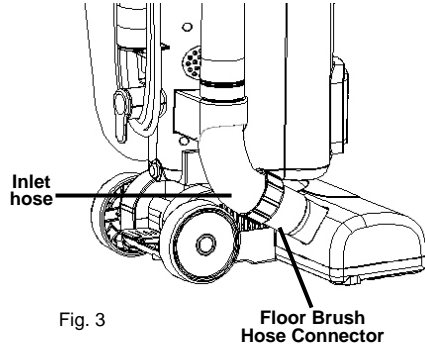

Fig. 3
3. Insert the inlet hose into the floor brush hose connector that is on the floor brush. (Fig. 3)